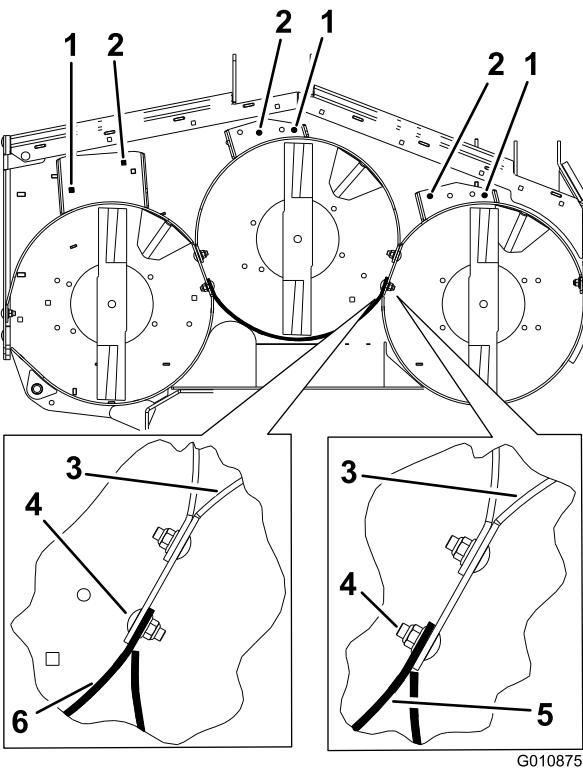

Figure 10
3. Loosely install the right baffle to the top of the mower deck with 1 carriage bolt (3/8 x 1 inch) and 1 flange nut (large flange), (3/8 inch) (Figure 9). Refer to Figure 10 for the correct holes to use and the position of the baffles.
6. Loosely install the left baffle to the top of the mower deck with 1 bolt (3/8 x 1 inch) and 1 flange nut (small flange) (3/8 inch) (Figure 9). Refer to Figure 10 for the correct holes to use and the position of the baffles.